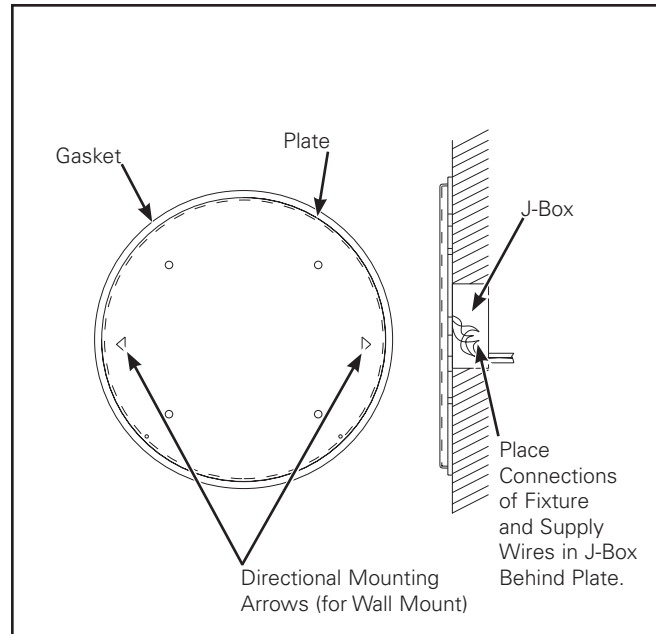

Figure 1. Plate / Gasket Assembly
3. Locate on ceiling or wall over a junction box. Use mounting plate as a template, layout fastener locations (Figure 1.). If wall mounted, note the "up" notation on the mount plate. If using an eyelid option, make certain that the eyelid is in the upward position.